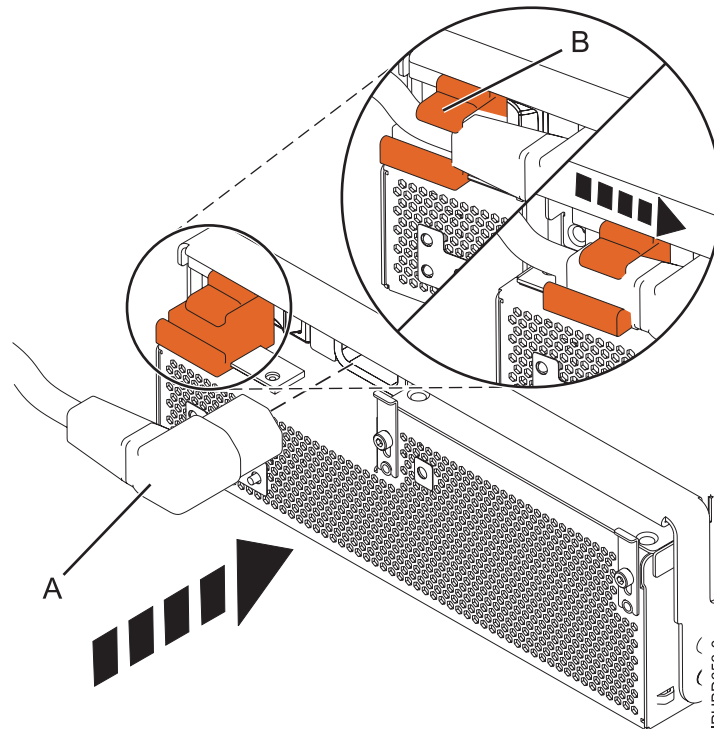

Figure 22. Connecting the power cable to the front of an expansion unit
7. Close the locking handle (A) until the power supply locks into position.
8. Reconnect the power cable **(A)** to the front of the power supply, and then slide the cable retention bracket **(B)** to the closed position to secure the cable as shown in Figure 22. By moving the bracket to the closed position, you turn on the power supply.